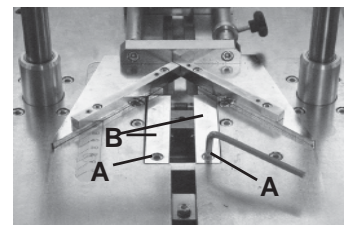

Figure 12
- a. Remove screws (**A**) and set the **Cover Plates (B)** aside. (Figure 12)